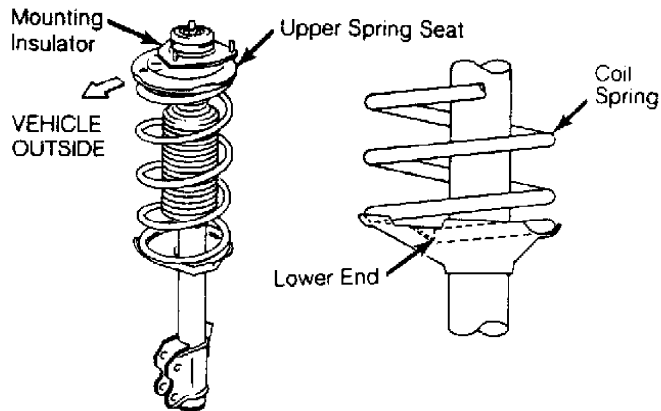

Fig. 2: Positioning Coil Spring & Mounting Insulator
2) When installing spring seat, ensure arrow on spring seat points toward outside of vehicle and is in line with strut-to-rear knuckle slot on lower end of strut. See Fig. 2. To complete installation, reverse removal procedure. Tighten nuts and bolts to specification with vehicle on ground. See TORQUE SPECIFICATIONS table at the end of this article. Check wheel alignment. See WHEEL ALIGNMENT SPECIFICATIONS & PROCEDURES article in the WHEEL ALIGNMENT section.